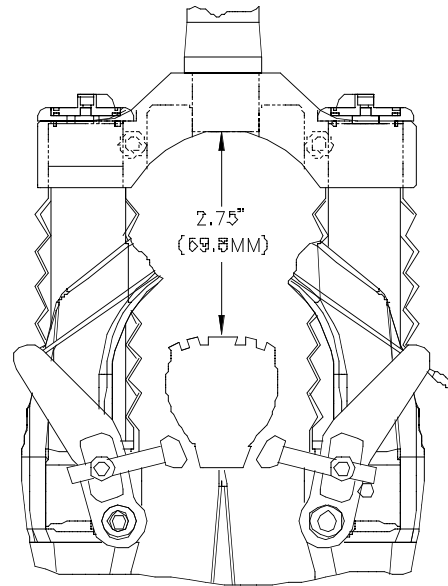

FIGURE 3: TIRE CLEARANCE
2.875" (73.0MM). Any less clearance can result in accident resulting in serious injury or death. Figure 3